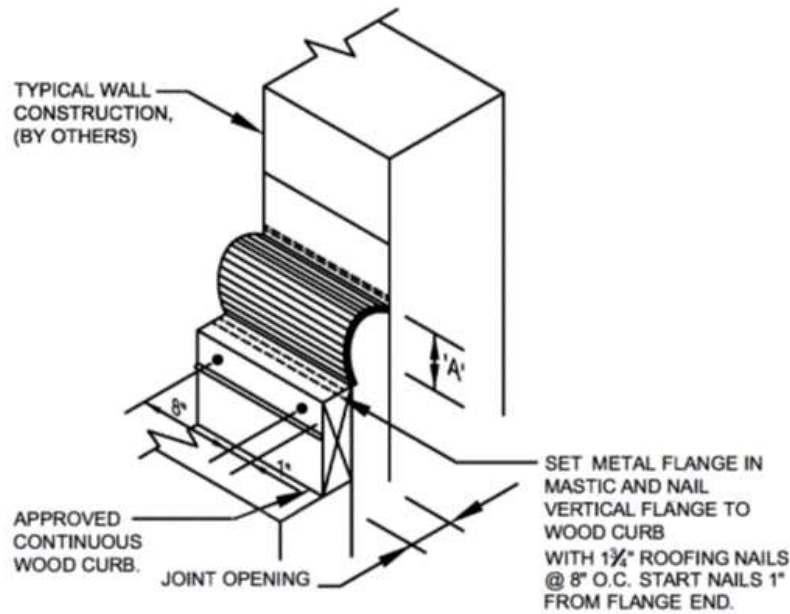

Figure 5
5. Set flange in membrane compatible mastic and nail to vertical surface of roof curb w/ (1) 1 $\frac{3}{4}$ " roof nail at 8" o.c. start nails 1" from flange end. **See Figure 5**